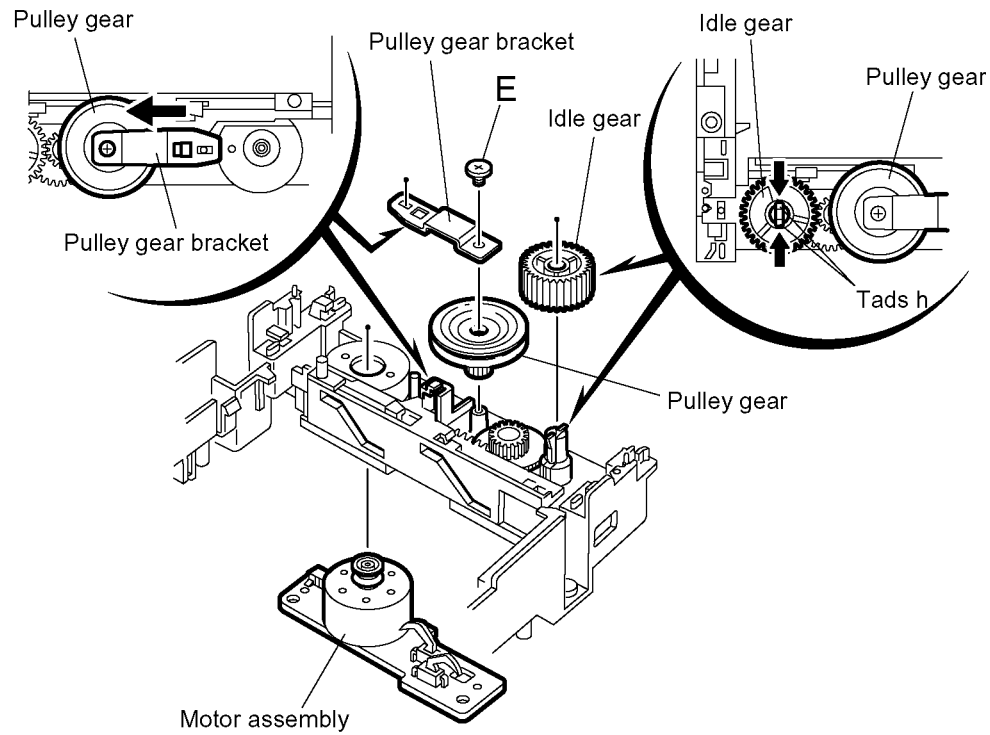

Fig.9
3.1.6 Removing the Idle gear/pully gear/ middle gear/slitecam (See Fig.9 to 11)